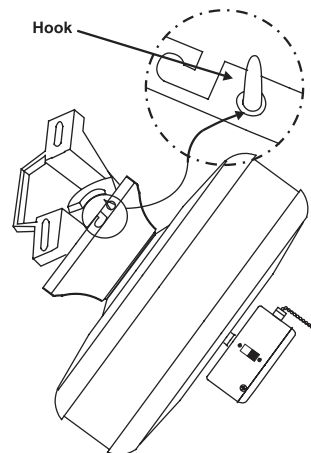
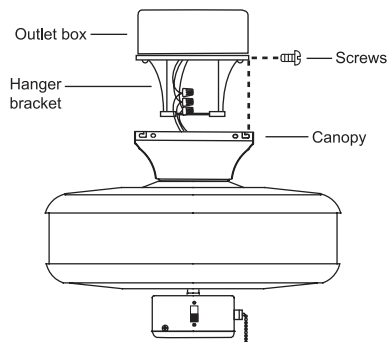

Fig.10
Fig.12
6. Hang the fan on the hook of the hanger bracket. Be certain that the canopy is fully locked into hook as shown in (Fig.10). This will allow you to make the electrical connections.
Remove the fan from the hook on the hanger bracket (Fig. 10). Secure the canopy to the hanger bracket by placing screws into slot in the canopy. Twist clockwise to lock in place, and tighten four screws firmly. (Fig. 12)